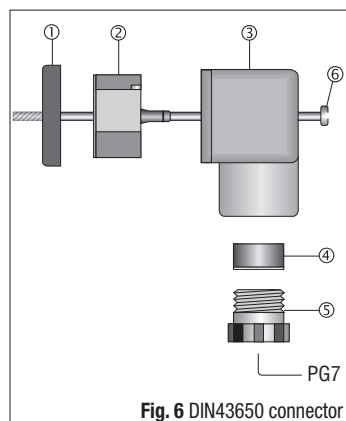

Fig. 6 DIN43650 connector
To proceed with the electrical connections, open the connector by removing the screw (6) as shown in the Fig. 6: